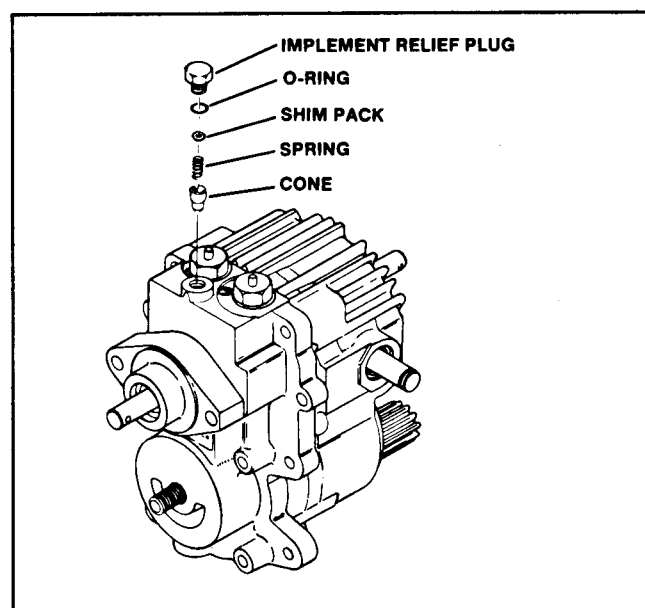

Figure 33
4. Remove the implement relief plug and O-ring from the top of the pump housing (Fig. 33). Pull the shim pack, spring, and cone out of the housing. Some oil may flow out of the transmission. A small magnet may be helpful in removing the spring and cone from the transmission.